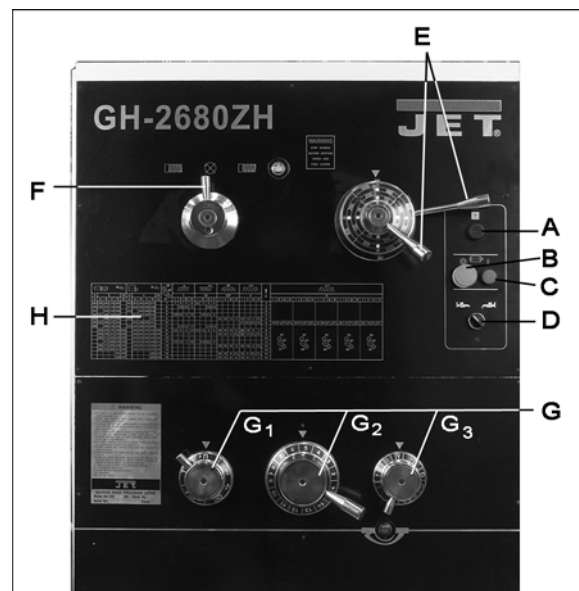

Figure 23 – Headstock Controls
- **Power Indicator Light (A, Figure 23).** Illuminates whenever lathe is receiving power.
- **Emergency Stop Button (B, Figure 23 and 24).** Shuts down all machine functions. **NOTE: Lathe will still have power.** Twist button clockwise to reset.
- **ON Button (C, Figure 23 and 24).** Activates motor.
- **Coolant On-Off Switch (D, Figure 23).** Activates coolant pump.
2. **Speed Selection Levers (E, Figure 23):** Located on front of headstock. Move levers left or right to desired spindle speed, according to accompanying chart on the dial.
3. **Feed Direction Lever (F, Figure 23):** Located on front of headstock. Moving the lever changes direction of feed. Center position is neutral.
4. **Lead and Feed Selector Levers (G, Figure 23):** Located on front of headstock. Used conjunctively to set up for threading or feeding, according to the accompanying chart (H).